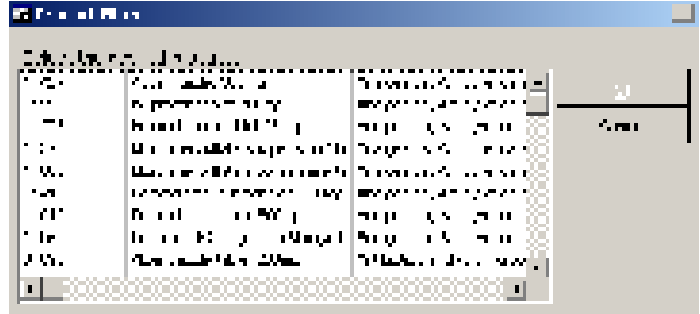

Figure 8.5 Product Filter window.
1. Click the Add Product(s) button. The Product Filter window (Figure 8.5) is displayed, listing all products in Supply Chain Manager.
1. Click Delete Product(s). The Product Filter window (Figure 8.5) is displayed, listing all products distributed by the facility's type.